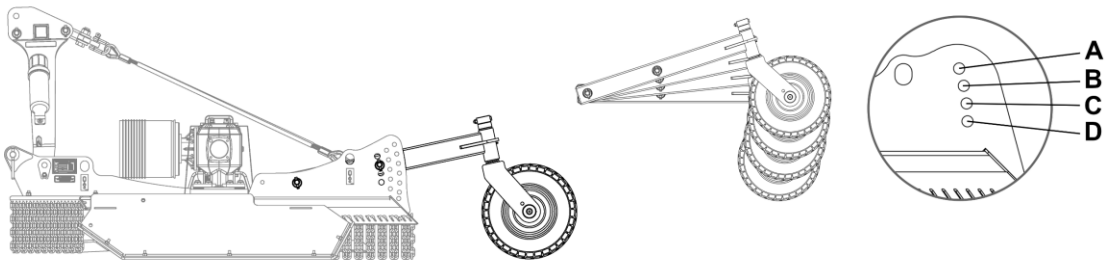

Figure 4.13
1. Wheel arm pin positions (1, Figure 4.13)